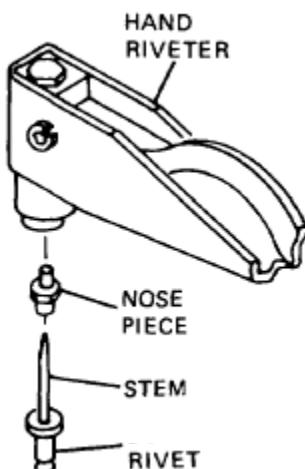

Figure 4-52. Hand riveter with nose piece.
2. Select appropriate nose piece for hand riveter (WP 0058, SATS Base Tool Component List) and install nose piece (Fig. 4-52).